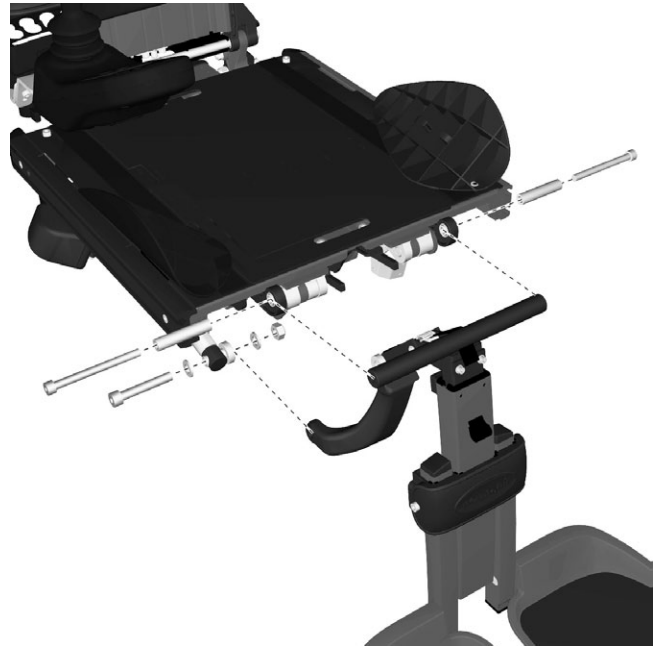

Figure 221. The legrest is held in place by two screws and spacers. The front bracket of the actuator is held in place by a screw and lock nut.
4. Remove the front bracket of the manual adjustment unit/actuator. See fig. 221. Start with the lock nut and the washer on the inside of the bracket, then remove the screw and washer.